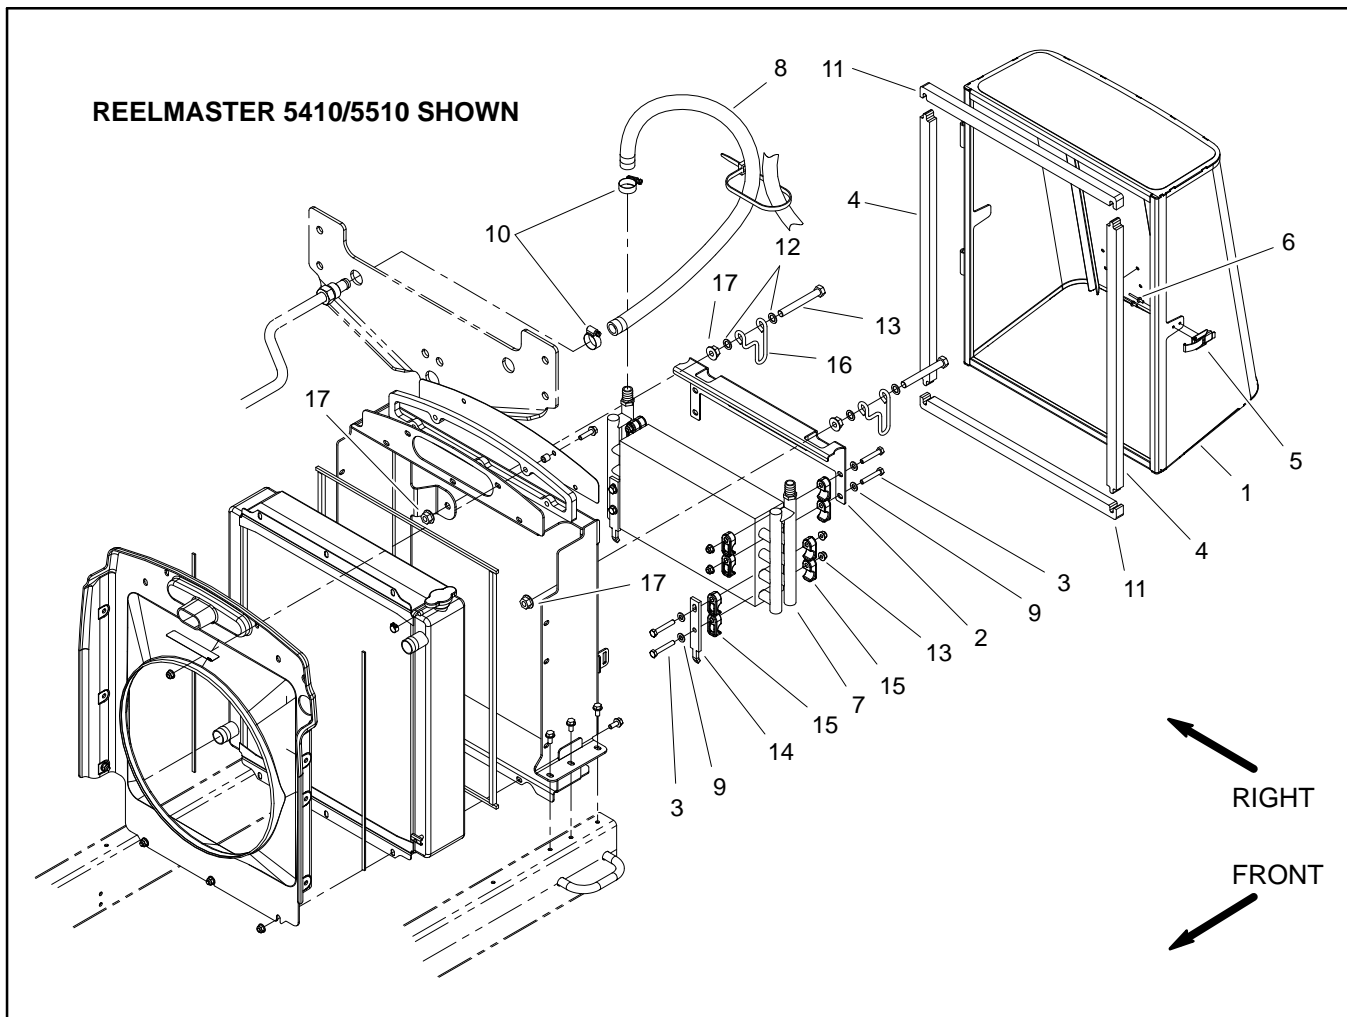

Figure 97
Removal (Fig. 97)
- If necessary, remove hydraulic fittings, clamps and brackets from oil cooler using Figures 97 and 98 as guides.
Installation (Fig. 97)
1. If removed, install hydraulic fittings, clamps and brackets to oil cooler using Figures 97 and 98 as guides. On Reelmaster 5210 machines (not shown), apply hydraulic thread sealant on hydraulic fitting threads before installation.